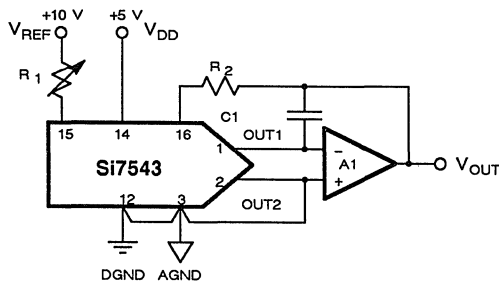
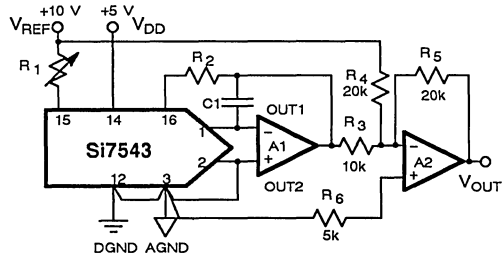

Figure 6. Unipolar Binary Operation
Figure 7. Bipolar Operation (4 - Quadrant Multiplication)
- Gain error is measured using internal  $R_{FB}$  only. Gain error can be trimmed to zero using circuits of Figures 6 and 7.
Gain error or full-scale error is a measure of the difference between an ideal DAC's and the actual device output. For the Si7543, ideal full-scale output is  $-(4095/4096) \cdot (V_{REF})$ . Gain error is adjustable to zero using external trims as shown in Figures 6 and 7.
output to a known state. When operating in the unipolar mode (Figure 6), a CLEAR sends the DAC output voltage to 0 V. When in the bipolar mode (Figure 7), a CLEAR sends the DAC output to -VREF.
Figure 6 shows the simplest Si7543 configuration. The logic inputs are omitted for clarity. The input to  $V_{REF}$  can be either positive or negative; with a dc reference voltage or current the circuit is a unipolar D/A converter. With an ac reference voltage or current the circuit provides 2-quadrant reference multiplication (digitally controlled attenuation). The input/output relationship is shown in Table 2.
of Figure 6
The circuit for bipolar operation is shown in Figure 7, accompanied by the input/output relationship in Table 3. With a positive or negative dc reference, the circuit provides offset binary operation. With an ac reference, the eleven LSBs provide digitally controlled attenuation of the reference while the MSB provides polarity control.
Bipolar Binary Code Table for Circuit of Figure 7
Unlike the unipolar circuit of Figure 6, the 0 V level as well as the full-scale must be trimmed in this circuit. To trim the 0 V level, load the DAC register with 1000 0000 0000, and adjust R1 for VOUT = 0 V. Alternatively, R1 and R2 can be omitted and the ratio of R3 to R4 adjusted for VOUT = 0 V. Full scale can be trimmed by adjusting the amplitude of VREF or by varying the value of R5.